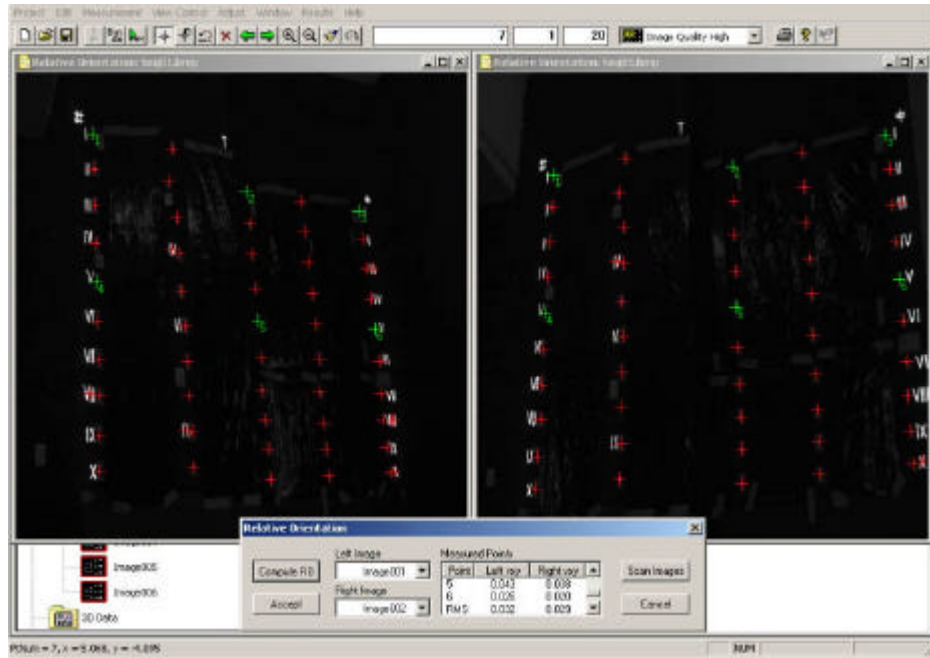

Figure 5.7: Relative Orientation dialog.
The **Relative Orientation** (RO) capability incorporated into *Australis* has one primary purpose: to establish preliminary XYZ object point coordinates of a subset of 6 or more object points seen in two images such that these can be used to support subsequent resection and resection driveback. Thus, the user can start the survey with NO preliminary object space knowledge; neither an EO device nor preliminary approximate coordinates of 4 or more points are required. The RO would thus be performed only once and involve only two images (any two which are suitable). After RO, the process reverts to the standard resection driveback sequence familiar to *Australis* users. This section gives a brief guide to running the RO, the graphic presentation of which appears in Fig. 5.7. In order to initiate RO, select the Adjust menu and then Relative Orientation. A more complete account of the Relative Orientation Procedure is provided in Tutorial 4 of Chapter 10.